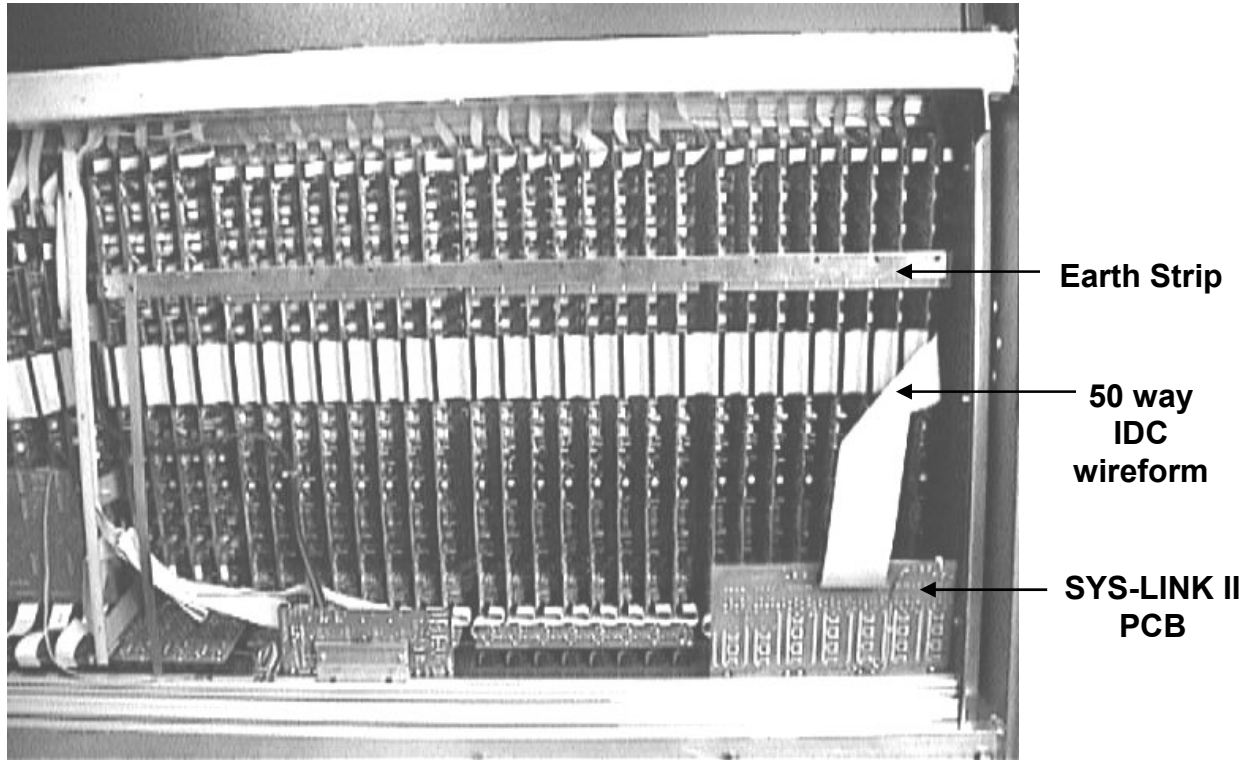

fig.6
- 1) Remove the screws attaching the relevant Earth Strip running the length of the Mono section (see fig.6, right hand section only shown) then lift away the Earth Strip.